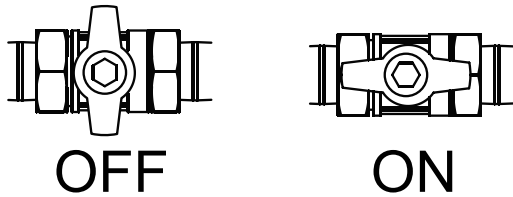

Figure 20B - Equipment Shutoff Valve
1. Close equipment shutoff valve (see Figure 20B).
1. Open equipment shutoff valve (see Figure 20B).